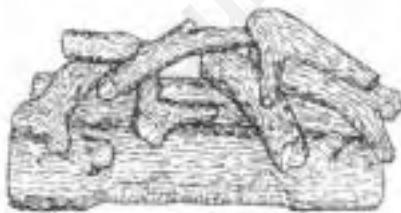

Figure 40
Carefully position and center the fiber logs onto the burner with the longer, scalloped and charred log in front and the shorter log in the back. Position the front log (A) with the cutout on its back fitted around the burner tube and the holes on its bottom side engaged with the tabs. Position the rear log (B) matching the cutout on its bottom with the position of the pilot and the holes on its bottom side engaged with the tabs. **Ensure that the burner bracket mounting tabs are located within the holes of these logs.** Place the smaller fiber logs (twigs) across the lower logs in the manner illustrated (Figure 40). Position the center left twig (1) first on two pins, one in the front log (A) and one in the rear log (B). Position the center left twig (2) over the two pins, one in the rear log and one in the front log. Then position the center right twig (3) on to the pins in the rear and front log. Place center right twig (4) on the remaining two pins of the front and rear logs. Place top left twig (6) over the pin on the center left twig (1) as shown in Figure 40. Place top center twig (7) over the pins on the (2) and (4) twigs. Place top right twig (5) over the pins on twigs (4) and (7). Top center twig (7) and the front log will have some flame impingement, all other logs and twigs should not impinge on the flames.